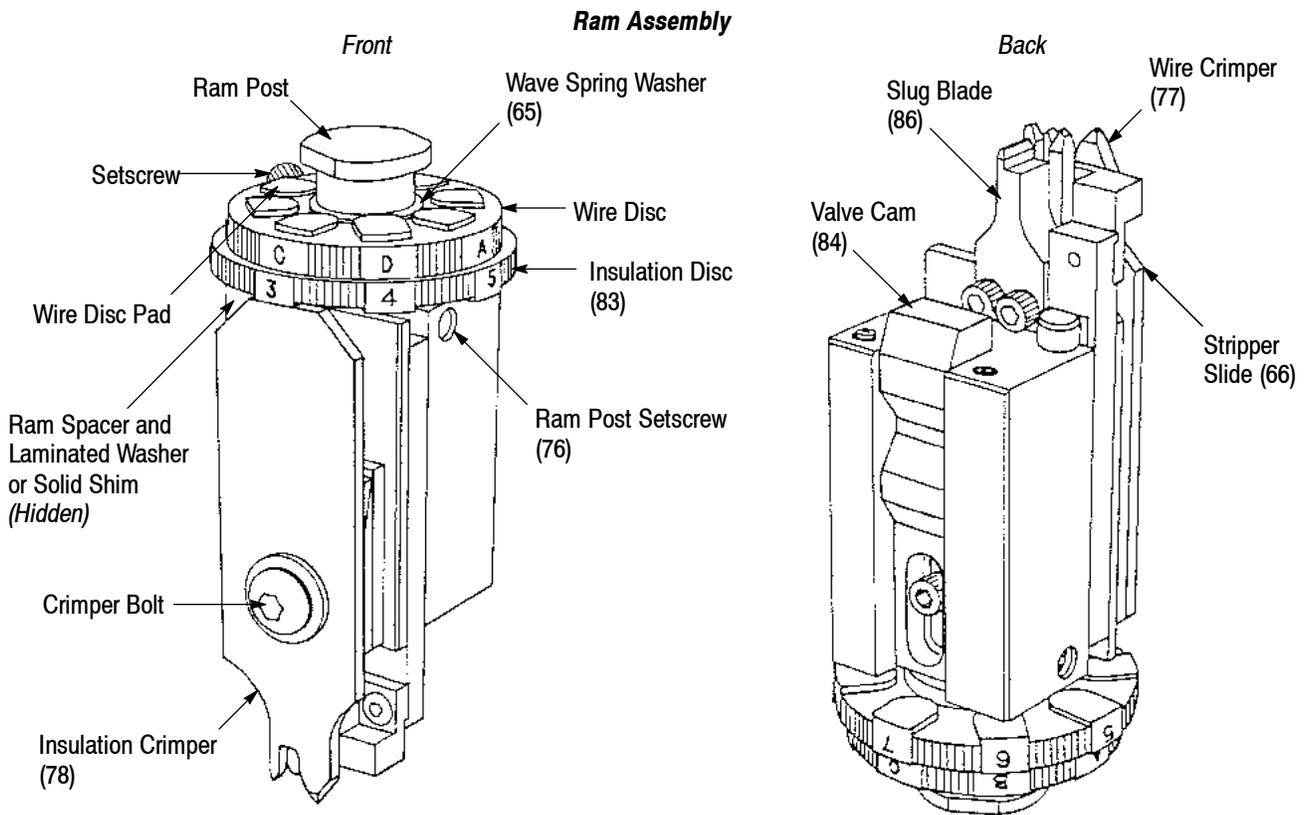

Figure 3
The applicator ram contains the insulation crimper, wire crimper, spacers, and valve cam. The valve cam actuates two roller valves. See Figure 3.
4.4. Crimp Height Adjustment (Figure 3)